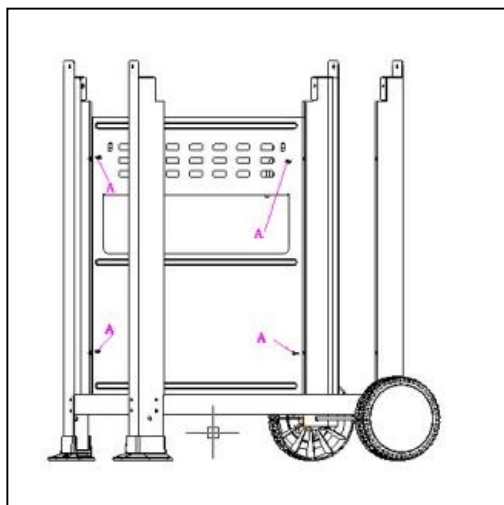

Figure 3
- STEP 3.** Attach Front Cart Panel to Legs by screws (Type A) and nuts (Type C). (Fig. 3)